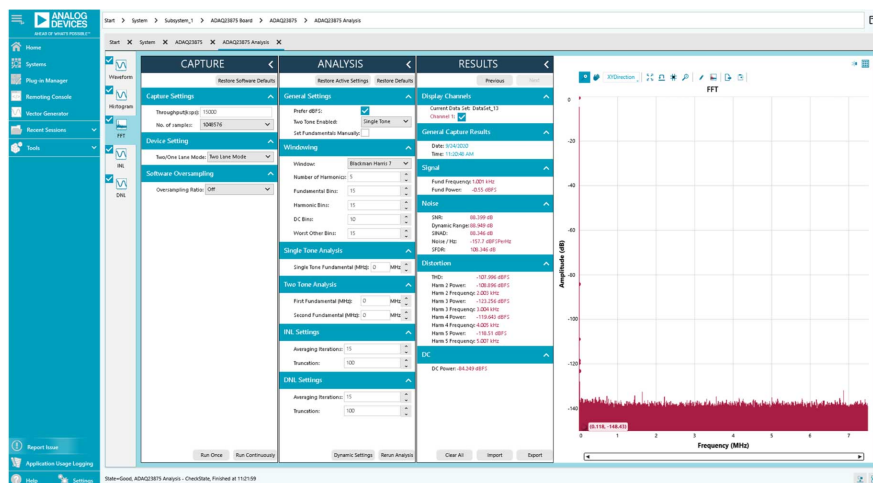
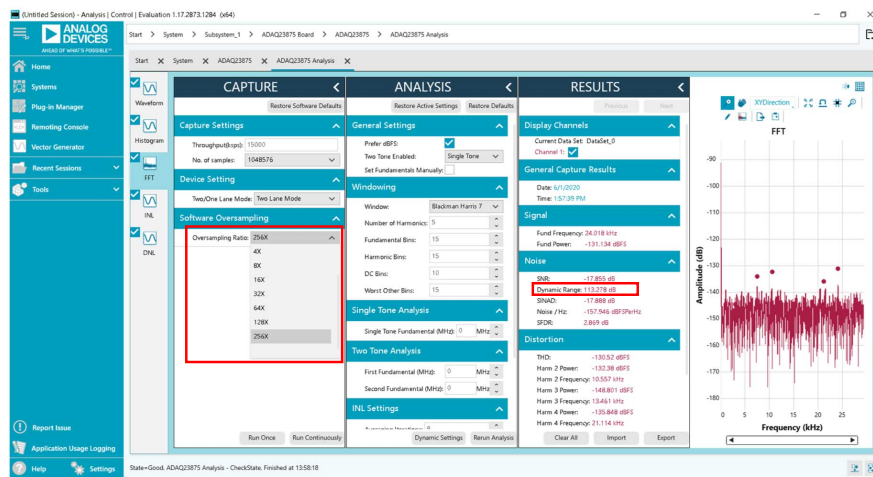

Figure 16. EVAL-ADAQ23875FMCZ FFT
Figure 19. EVAL-ADAQ23875FMCZ FFT with an Oversampling Rate (OSR) of 256x, Inputs Shorted
The **FFT** tab displays FFT information for the last batch of samples gathered, as shown in Figure 16. The FFT also allows the oversampling function with OSR up to 256x, as shown in Figure 19. As a general rule, oversampling by a factor of four provides one additional bit of resolution, or a 6 dB increase in dynamic range (DR) of the ADAQ23875. In other words,